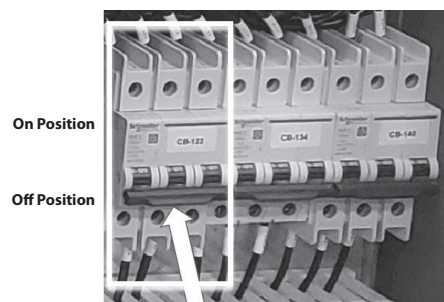

Figure 66
Step 7 – Move the breaker switch CB202 to the off position to disable power to the blade motor (shown in Figure 66).